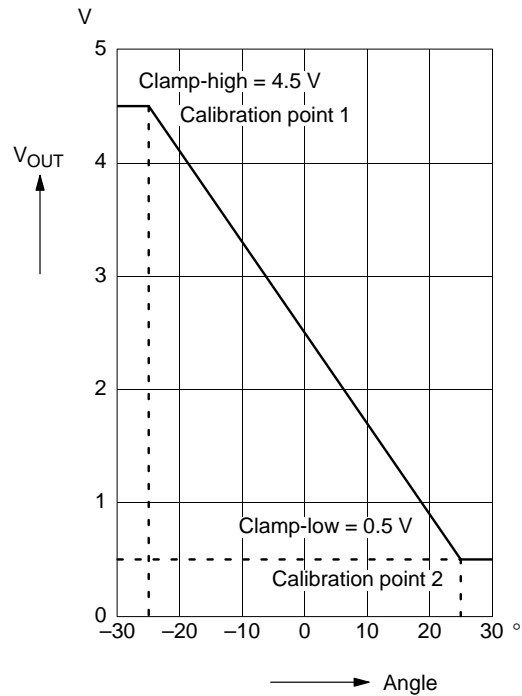

Fig. 2–8: Example for output characteristics
**Note:** The ADC-READOUT values and the resolution of the system depends on the filter frequency. Positive values accord to a magnetic north pole on the branded side of the package. Fig. 2–6 and Fig. 2–7 show typical ADC-READOUT values for the different magnetic field ranges and filter frequencies.
For the individual calibration of each sensor in the customer application, a two point adjustment is recommended (see Fig. 2–8 for an example). When using the application kit, the calibration can be done in three steps:
The following description explains the calibration procedure using an angle sensor as an example. The required output characteristic is shown in Fig. 2–8.